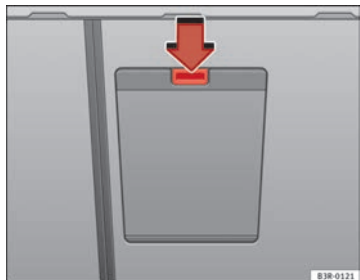

Fig. 117 Detailed view of the rear of the rear backrest: Ski bag cover
- Press the release catch for the ski bag cover ⇒ fig. 117 -arrow and swivel the cover downwards.